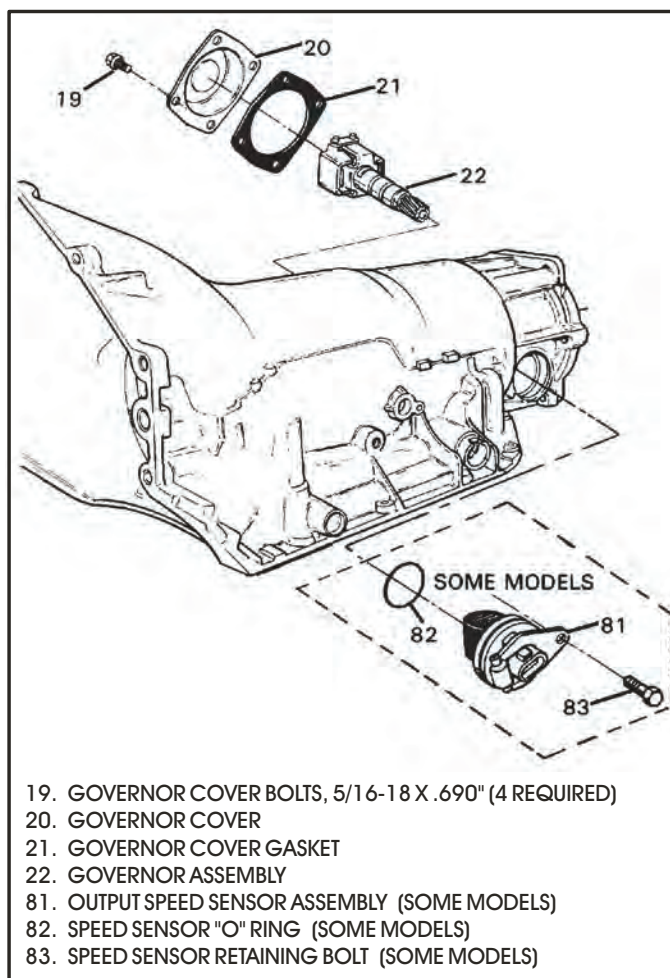

Figure 38
7. Remove the four governor cover retaining bolts and remove governor assembly with a twisting motion (See Figure 38).
8. Remove the speedometer adapter or the output speed sensor, whichever it is equipped with, as shown in Figure 38.